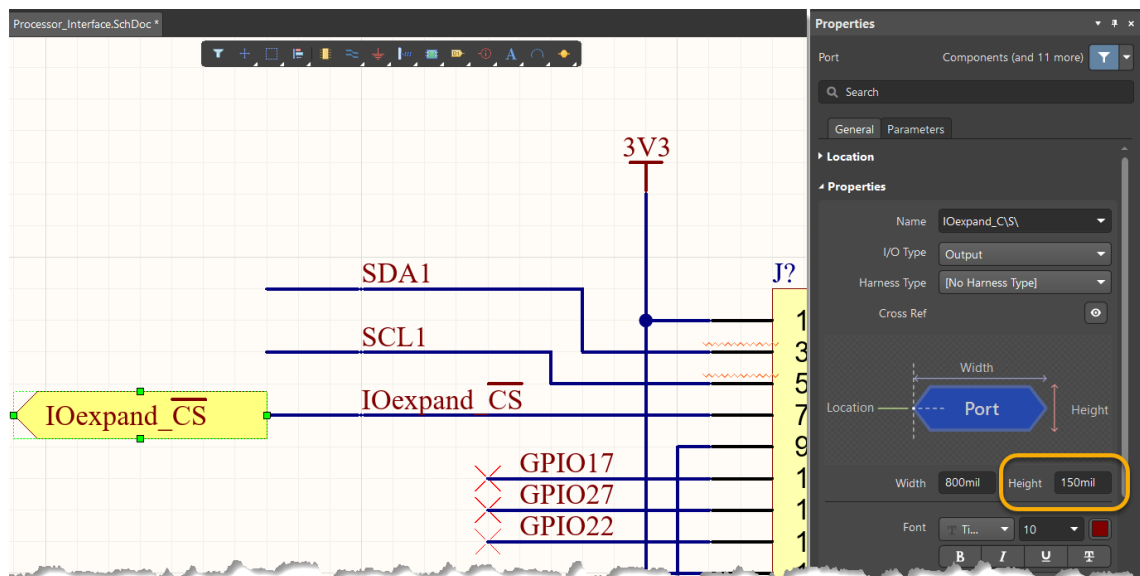

Figure 26. Port Properties
26. The port will require two **left-clicks**. The first left-click defines the left side of the port, and the second left-click defines the right-side of the port and its length. After placement, change the height of the port to 150mil, so that the bar above the text is not obscured by the port. See *Figure 26*